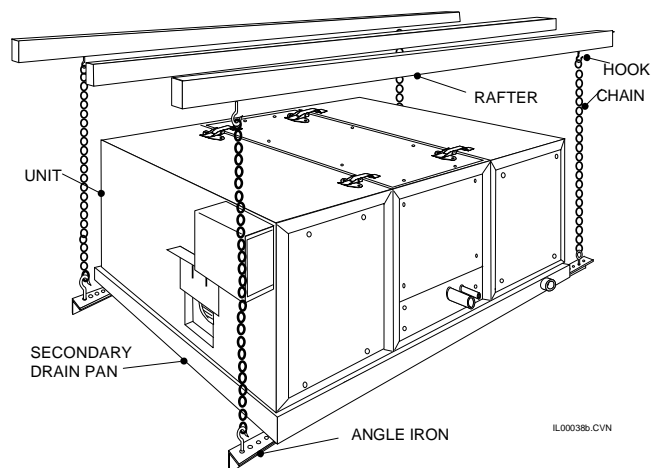

Figure 14a. Typical Suspended Mounting
Horizontal Suspended Mounting. The modules can also be suspended from the ceiling or rafters. A typical suspension method is shown in Fig. 14a. Screw four (4) “J” hooks into rafters. Suspend four (4) chains from “J” hooks and attach eyebolts to chains. Secure angle iron to eyebolts and place secondary drain pan on top. Put isolation pads in drain pan, making sure unit sits above sides of drain pan.